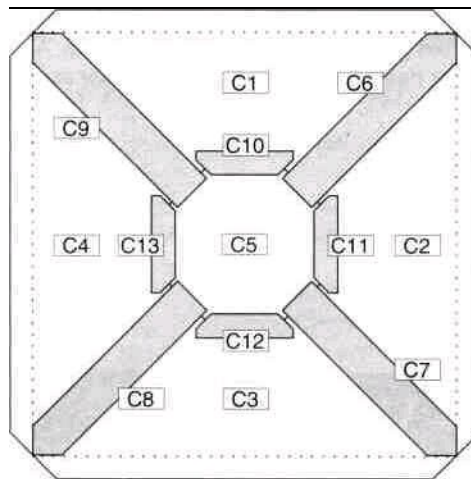

Fig. 3: Base panel
The base panel has a glue tab on all 4 sides. It is formed from 4 trapezoidal parts and the octagon detached from the front wall. These 5 parts are glued together on their rear side by the use of 8 connecting pieces (Fig. 3). All parts, including the connecting pieces, are black on the side facing the interior of the housing.
Step 11: Place the eight-sided base panel [C5] with its black face upwards in the space provided for it, in such a way that one of the narrower glue markings is under the protruding end of the connecting piece and all edges abut each other without gaps. Glue it to fix it under the connecting piece. Then insert the other base panels in the same way with the aid of the large connecting pieces, and finally stick the small connecting pieces onto the remaining free edges of the octagon (see Fig. 3).